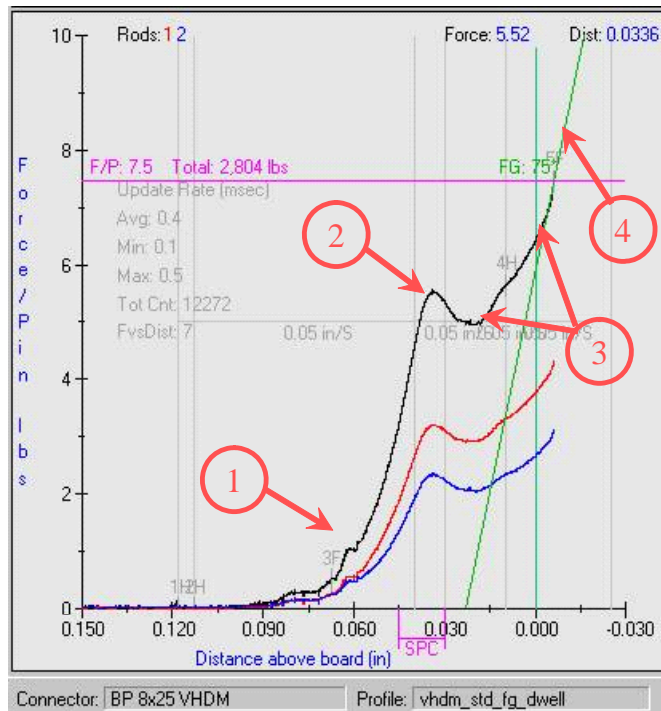

Figure A-10. Typical Force vs. Distance Curve of MEP-12T press for VHDM connectors.
The MEP-12T press produces a Force vs. Distance curve during a pressing sequence similar to the one shown in Figure A-10. The main areas of the curve are: the initial compression of the VHDM compliant pin and compliance of the PWB hole (1), the full collapse of the VHDM compliant pin (2), the sliding of the compliant pin in the PWB hole (3), and the termination force of the pressing sequence at the 75 Degree Force Gradient line (4). The following descriptions of these areas as for reference and are intended as an aid in understanding the pressing characteristics of the VHDM connector utilizing the *VHDM\_STD\_FG\_DWELL.prf* profile.